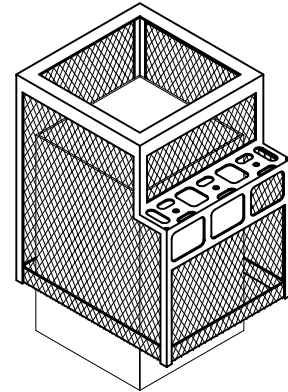

FIG. 1
STEP 1: Slip planter down over liner as shown in FIG. 1.